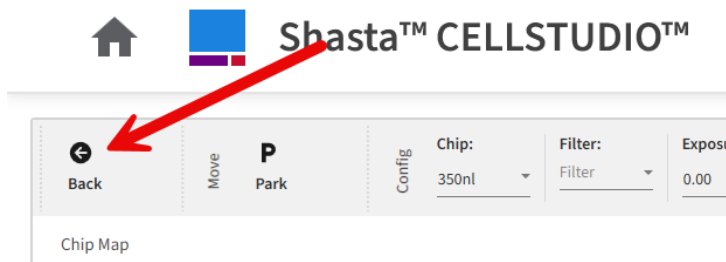

Figure 83. Where to locate the back arrow in the *Microscope* view.
- Clicking on the back arrow (Figure 83). This will return you to the *User Utilities* view.